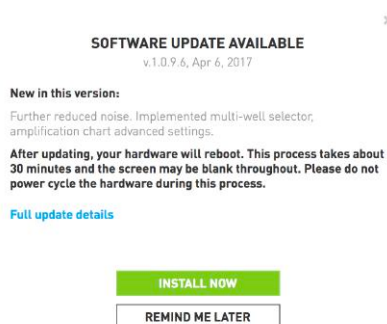

Figure 6.3
**Ethernet or Wi-Fi:** If the Open qPCR is connected to the local network, the software update image will be displayed as follows (Figure 6.3).